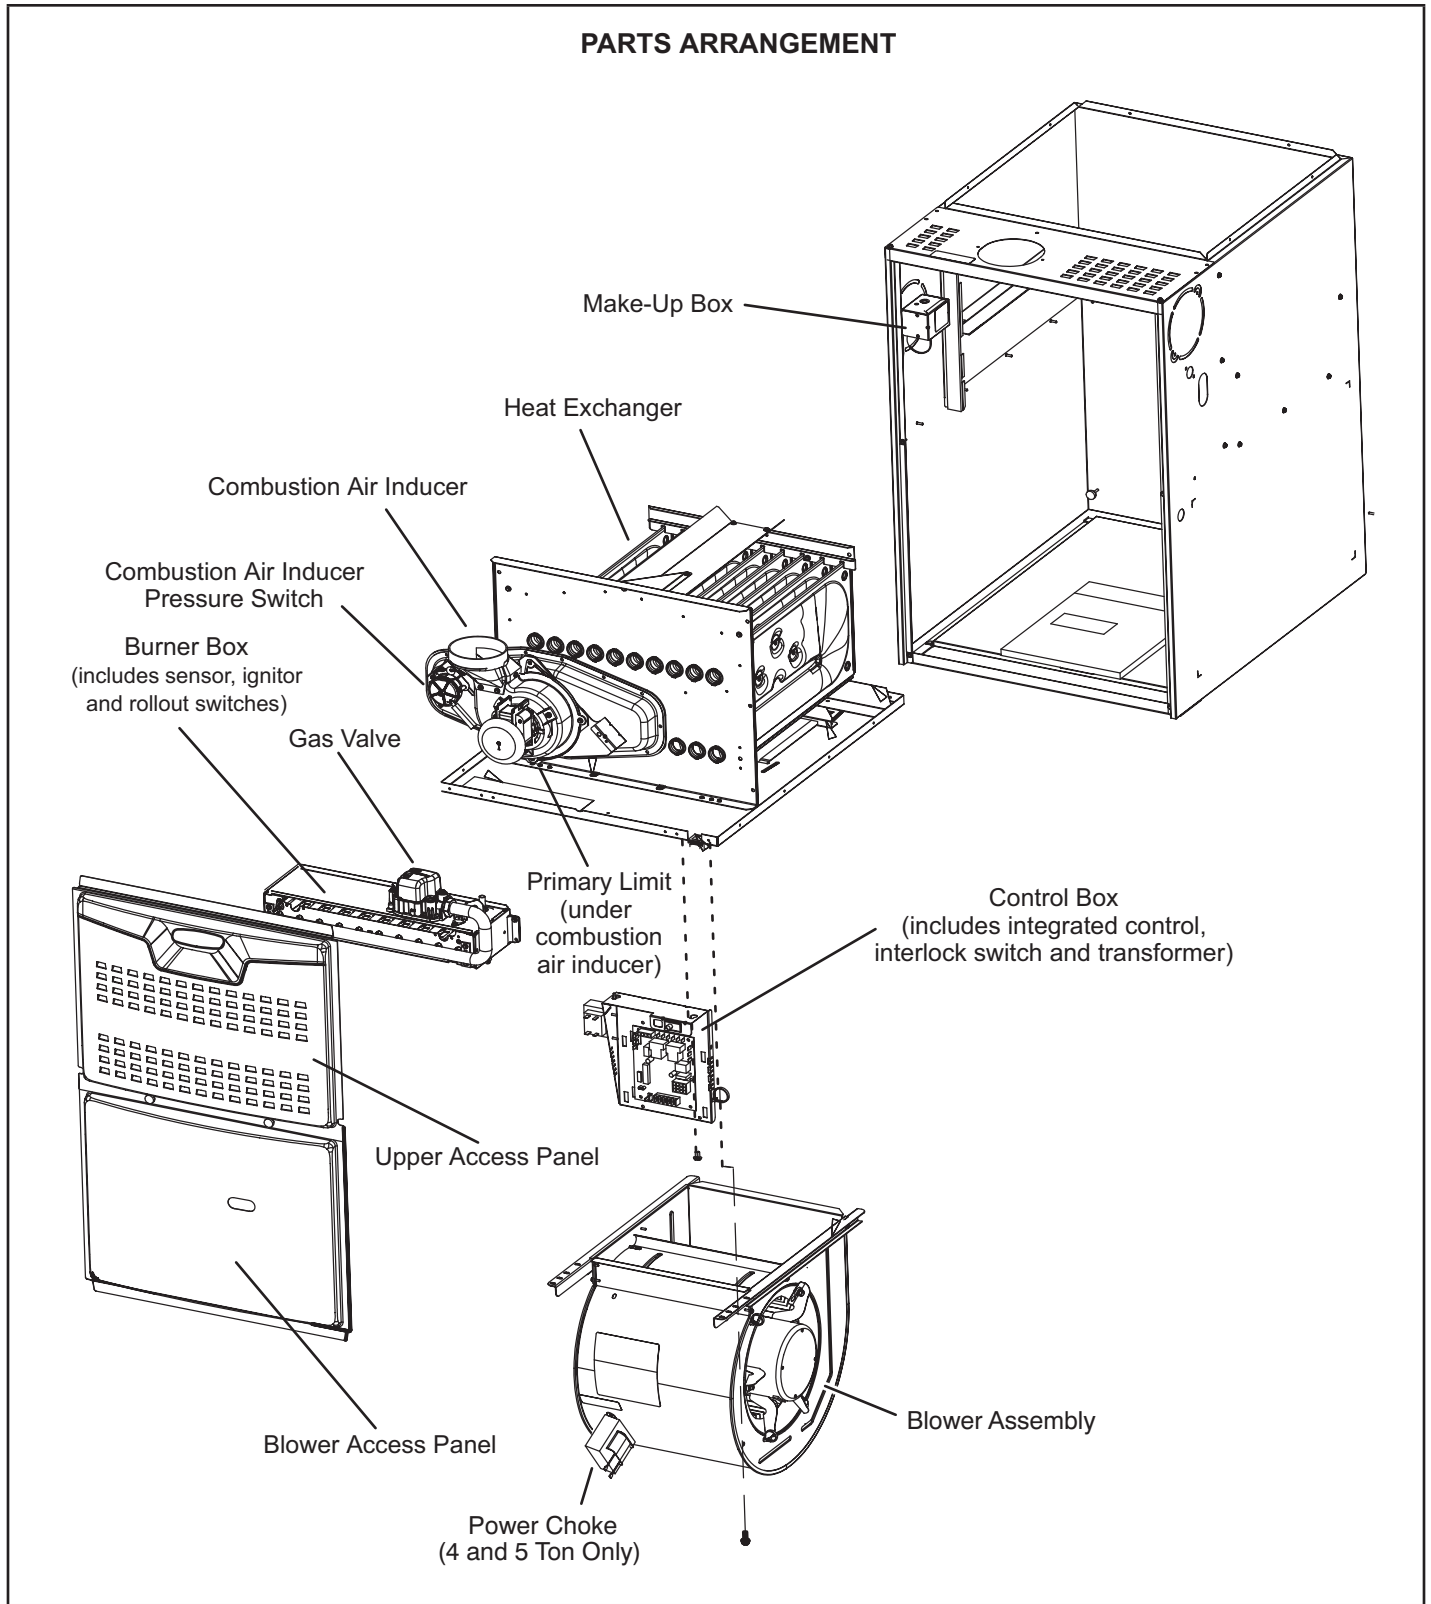
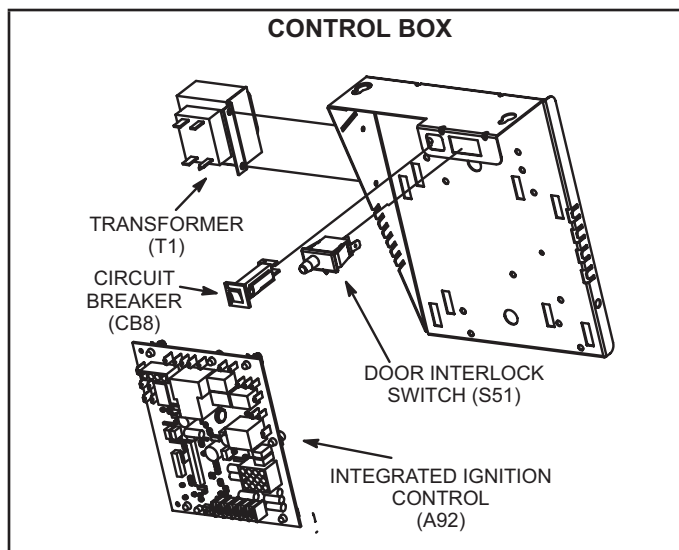

FIGURE 1
FIGURE 2
ML180UHE(X) unit components are shown in figure 1. The gas valve, combustion air inducer and burners can be accessed by removing the upper access panel. Electrical components are in the control box (figure 2) found in the blower section.